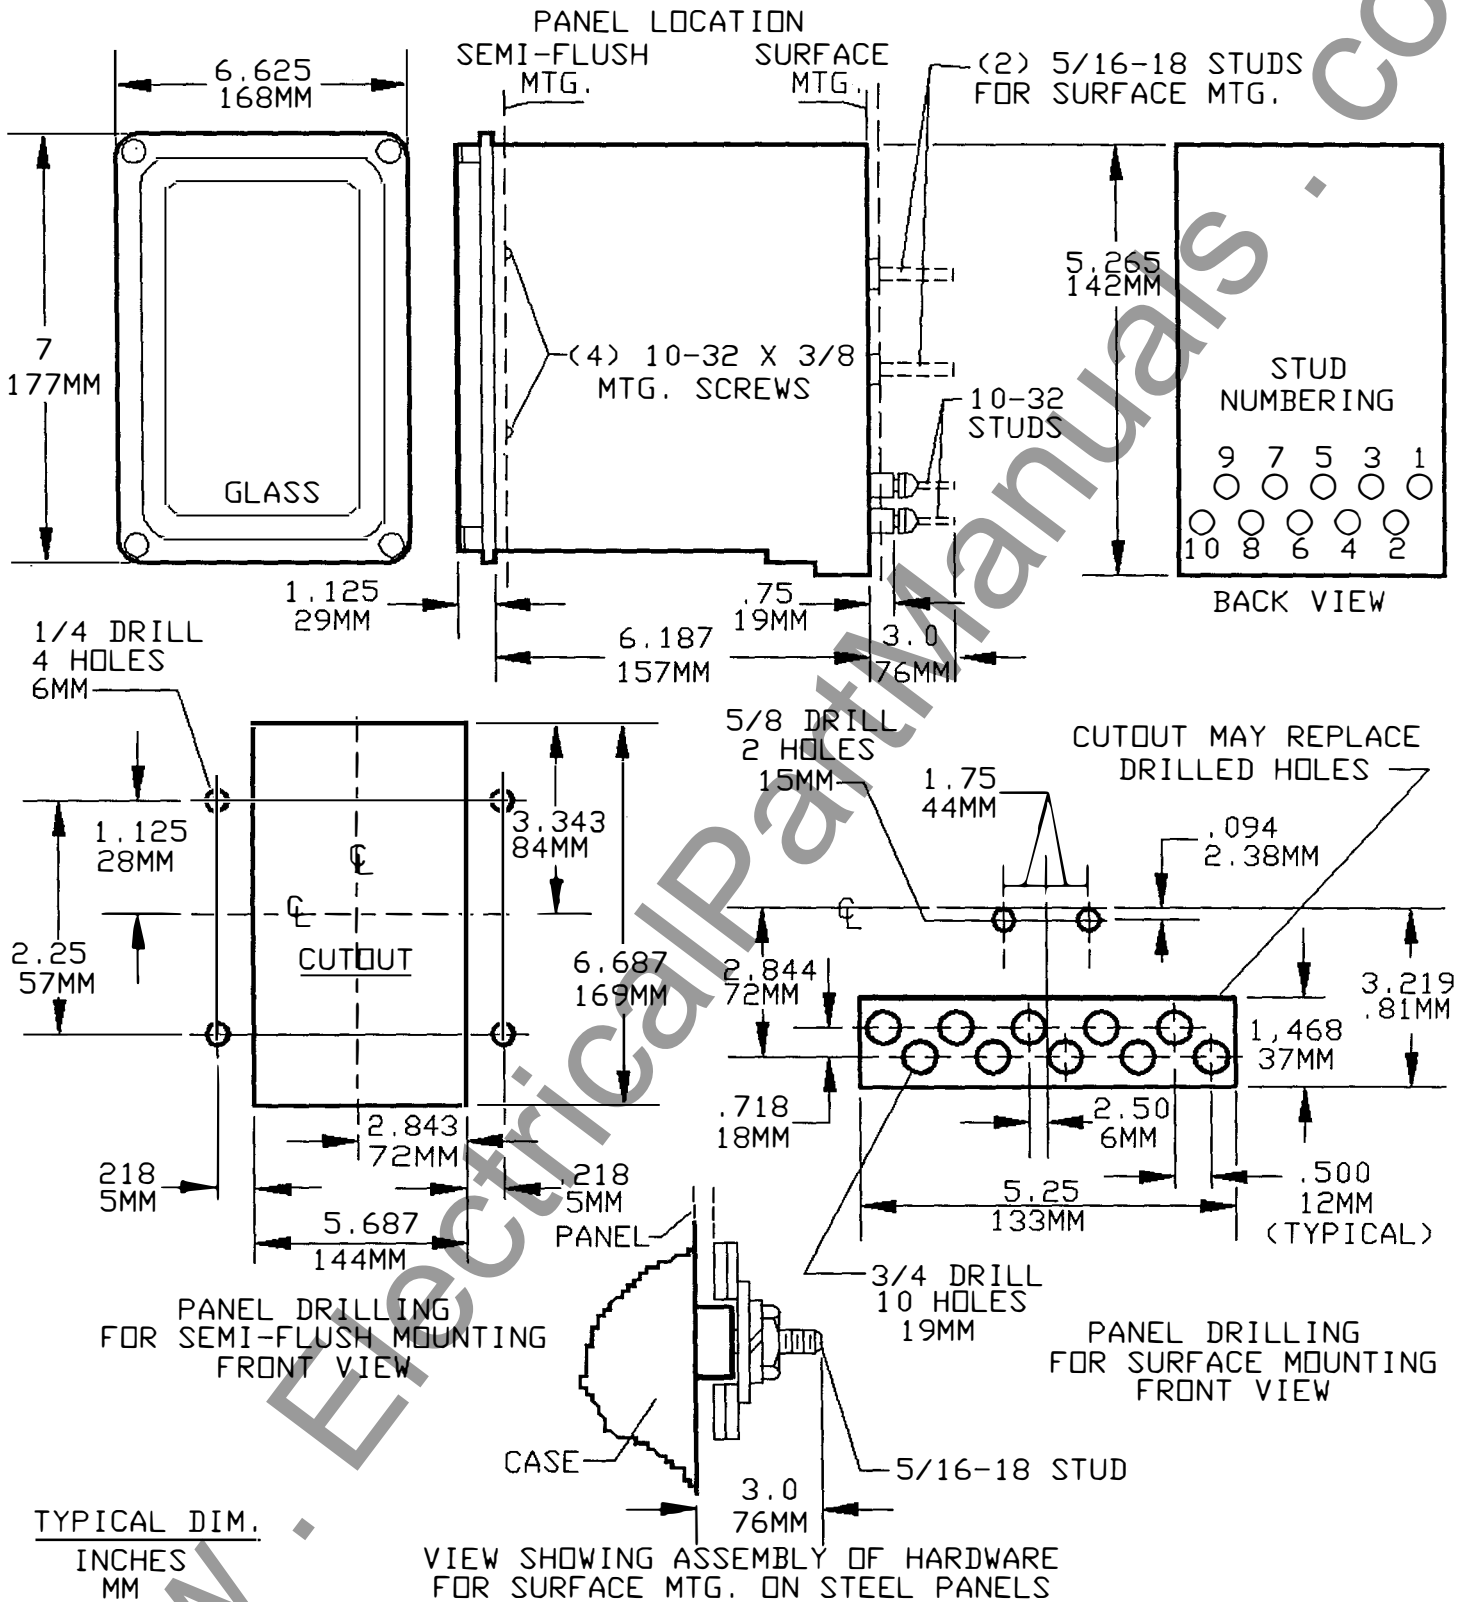

Figure 15 (0246A7968-5) Outline and Panel Drilling for the SFC151(-)A Relay
The relay should be mounted on a vertical surface. The outline and panel drilling diagram is shown in Figure 15.
- p.36, figure 15.